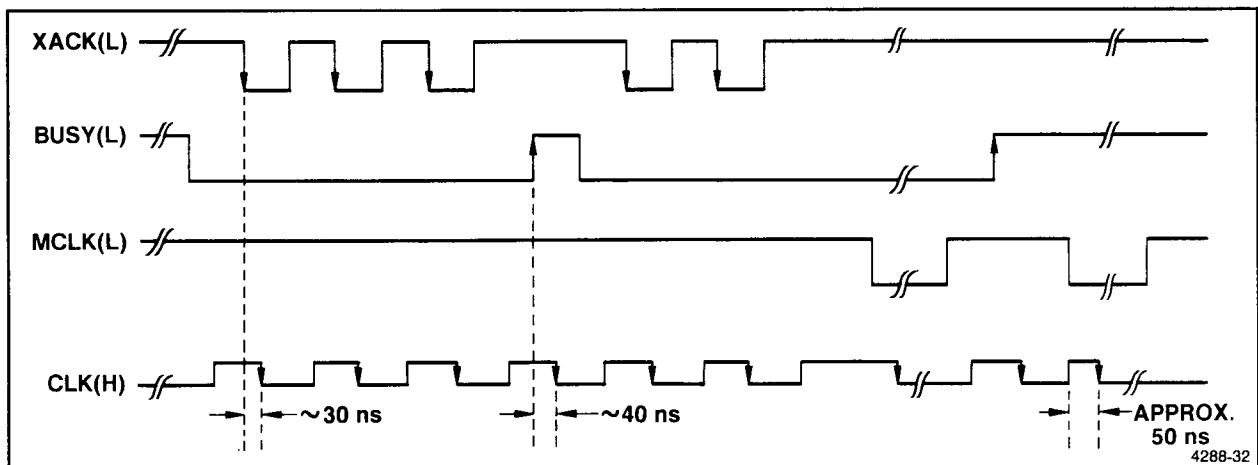

Figure 4-5. PM 112 Clock Generation.
The PM 112 derives its clock signal (CLK) from the Multibus signals XACK(L) and BUSY(L), or from the PM 112 signal MCLK(L). The falling edge of XACK(L) is logically ORed with the rising edge of of BUSY(L). The resulting output is XORed with MCLK(L) (the manual clock switch's output). Implementation of these functions is discussed under the following Manual Clock Switch and TTL-to-ECL Clock Translator headings. Figure 4-5 shows the timing relationships between XACK(L), BUSY(L), and MCLK(L). Figures 4-3 and 4-4 show the timing relationship of Multibus data read and write commands, respectively, to XACK(L).
When the manual clock switch is pushed, Q2084 turns off, and 50 ns later Q2085 turns on. This produces a minimum 50 ns clock pulse, as shown in Figure 4-5. The clock pulse occurs regardless of the states of XACK(L) and BUSY(L), because they have in effect been disconnected by Q2084 and bypassed by Q2085.